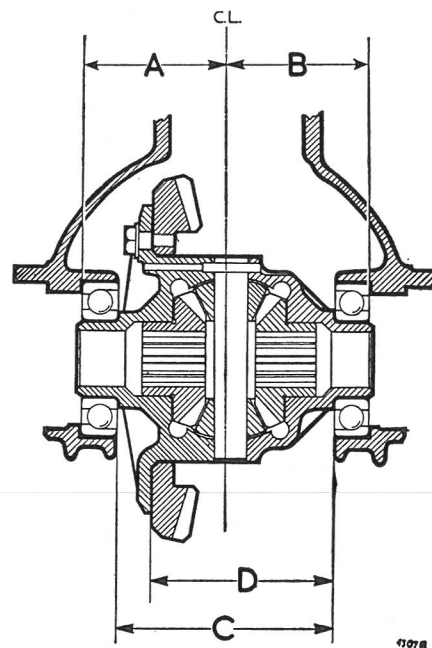

Fig. H.10
(1) Before fitting the crown wheel and differential assembly to the gear carrier it is necessary to calculate the shim thickness required behind each bearing to give the required pinch. To facilitate the calculation, machining variations are indicated by stamped numbers on the carrier adjacent to the bearing bores. The dimensions to be considered are shown in Fig. H.10, (A) being the distance from the centre-line to the bearing register of the carrier on the left-hand side and (B) the distance from the centre-line to the bearing register of the carrier on the right-hand side. The (C) dimension is from the bearing register on one side of the cage to the register on the other side, while the (D) dimension is from the rear face of the crown wheel to the bearing register on the opposite side. Any variation from nominal on the (A) dimension will be found stamped on the carrier adjacent to the bearing bore, and similarly with the (B) dimension. The variations from nominal on (C) and (D) dimensions are stamped on the machined face of the differential cage.